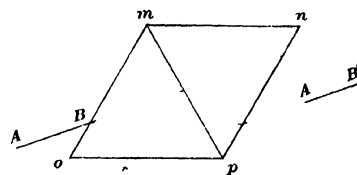

FIG. 98
**IV. Path of a beam of light through a plate of glass with parallel faces.** (a) Place two prisms together in the manner shown in Fig 98, thus forming in effect a single piece of glass with the parallel edges  $om$  and  $pn$ . Draw a heavy line  $AB$ , then place a straightedge in line with the image of this line, and draw a mark  $A'B'$  along its edge, showing the direction of the light after passing through the